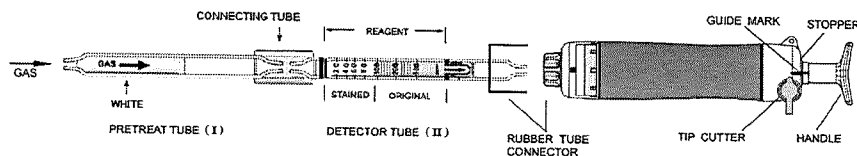

Fig.1
- ① Break both ends of the pretreat tube ( I ) and detector tube ( II ), and connect each end of the pretreat tube ( I ) and detector tube ( II ) with connecting tube as shown in Fig. 1.
- ② Insert the detector tube ( II ) into the aspirating pump securely as shown in Fig.1. (Arrow marks shall point to the pump.)
- ③ Align the guide marks on the shaft and stopper of the aspirating pump.
- ④ Pull the pump handle at a full stroke until it locks and wait for 3 minutes or until the completion of sampling is confirmed with the flow indicator of the pump. (See descriptions about the flow indicator in the instruction manual of the pump.)
- ⑤ On completion of sampling, read the scale at the maximum point of the stained layer.